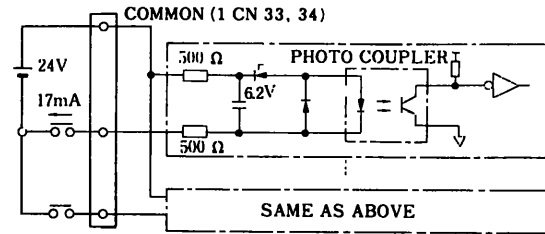

Fig. 6.1 Input Interface Circuit (Sequence Input)
- (2) Fig. 6.1 shows the input circuit and Table 6.1 shows signal description.